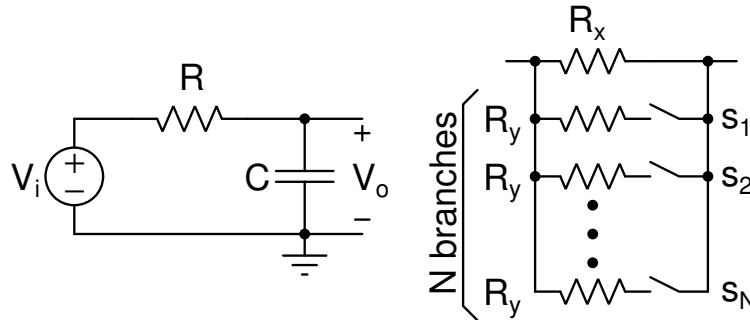

Figure 2.1: Problem 2.1.
2.1. The resistors and capacitors in a CMOS process vary by $\pm 25\%$ and $\pm 15\%$ respectively across process corners. The RC filter in Fig. 2.1 is designed for a nominal bandwidth of 10 MHz.